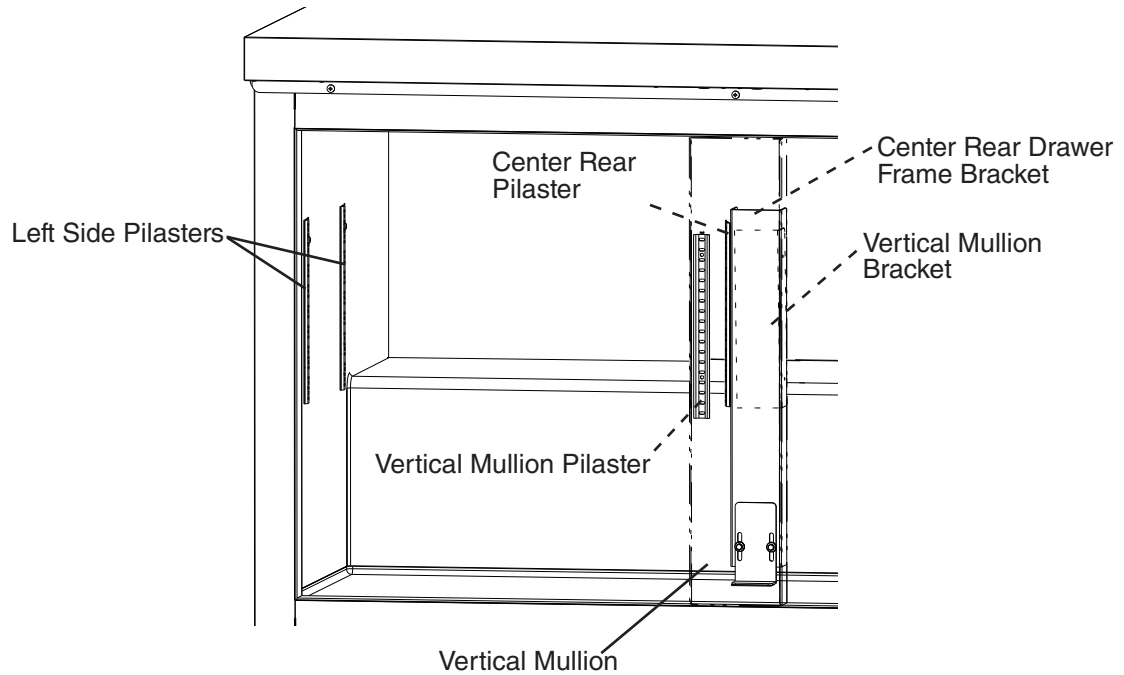

**Fig. 29**
- 8) Place and secure the pilasters and shelf support clips in their new location. See Fig. 29. Replace the shelf.